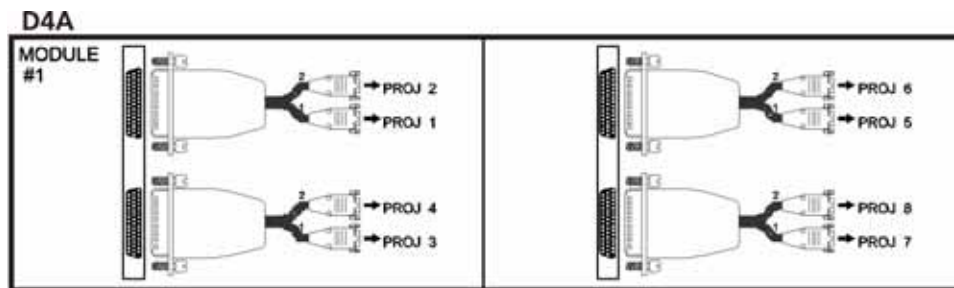

FIGURE 3-10 CONNECTING DISPLAYS
1. Connect the single end of each of the two dual VGA cables to the display module connectors on the rear panel (**Figure 3-10**).